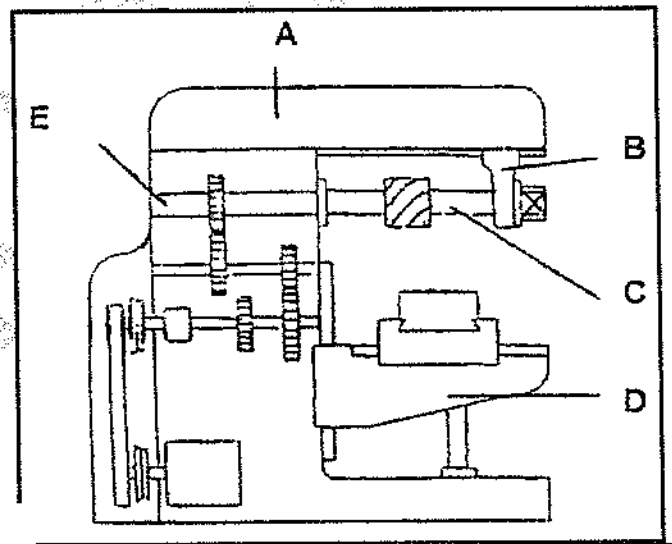

FIGURE 2 (5)
- 14.1 Study FIGURE 2 below and write down the correct name next to the letters (A–E) in the ANSWER BOOK.